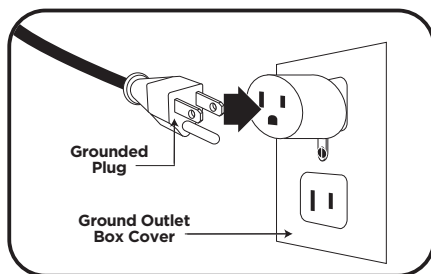

fig. B3 - Grounded Plug Connection
This appliance is for use on a nominal 120-volt circuit and has a grounding plug that looks like the plug illustrated below. (fig. B3)
1. Plug temporary adaptor into two-pole outlet. (fig. B3)